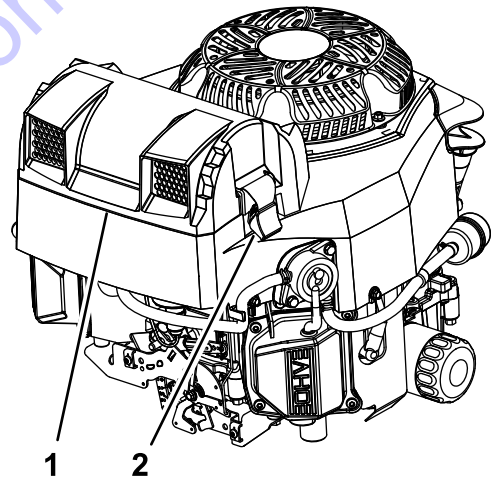

Figure 23
2. Remove the cover to access the air-cleaner elements (Figure 23).
3. Install the cover, and secure it with the latches (Figure 23).